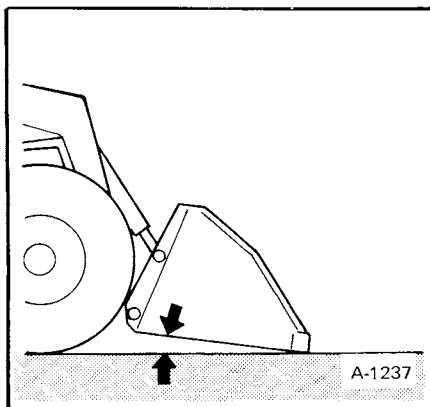

Fig. 21 Cutting Edge Grounded
1. Tilt bucket down until it contacts the ground (Figure 21).